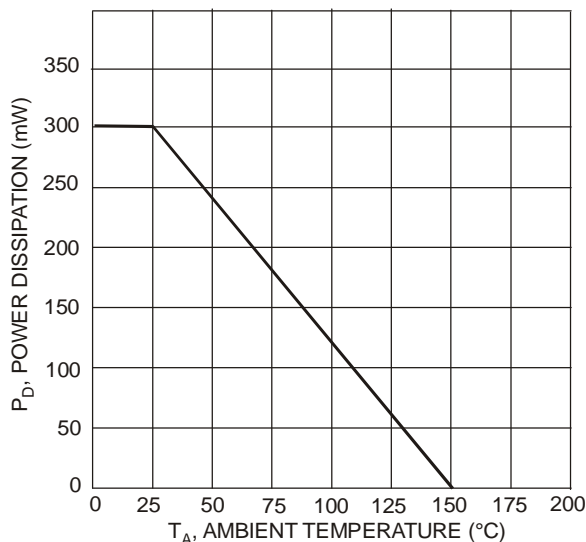

Fig. 1, Max Power Dissipation vs. Ambient Temperature
2. When operated under collector-emitter saturation conditions within the safe operating area defined by the thermal resistance rating ( $R_{\theta JA}$ ), power dissipation rating ( $P_d$ ) and power derating curve (Figure 1).